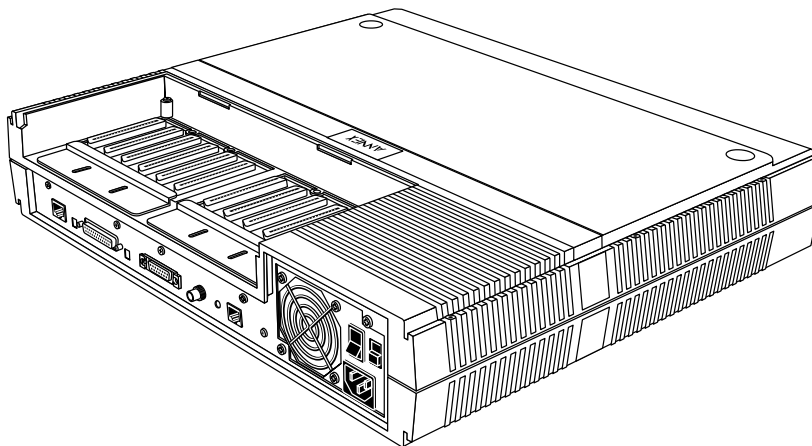

Figure C-10. Securing the Cover
- 2 Secure the cover and cable retainers using ten screws (see Figure C-10).